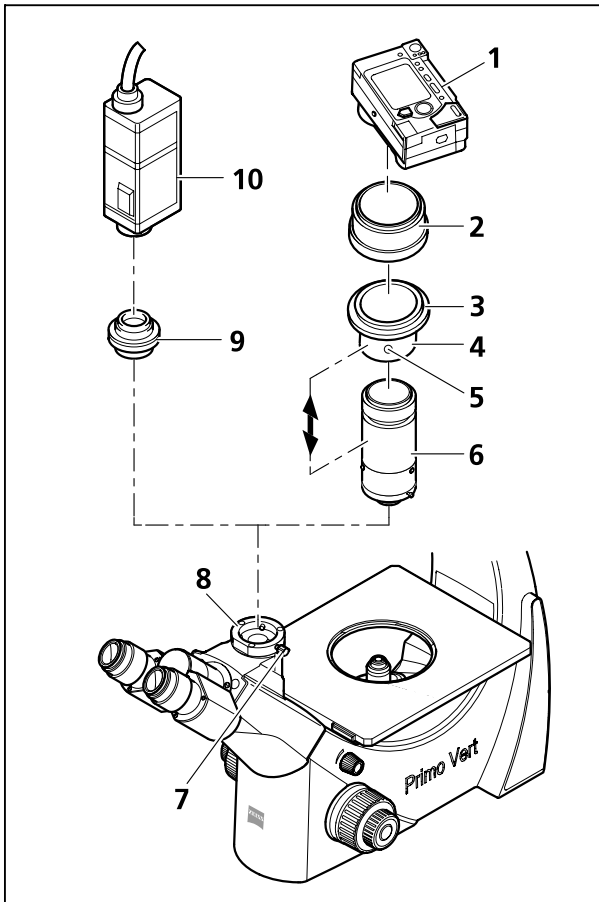

Fig. 18 Attaching the camera
- Loosen the clamping screw (Fig. 18/7) and remove the dust cap from the camera port (Fig. 18/8) of the trinocular tube.
- Sliding mount (Fig. 18/4), thread adapter ring M37/52 (Fig. 18/3) and lens mount (Fig. 18/6) are supplied pre-assembled as **Digital Camera Adapter P95 M37/52x0.75**. The opposite drawing shows this unit dismantled. Furthermore, you may unscrew the thread adapter ring M37/52 (Fig. 18/3) from the sliding mount (Fig. 18/4) (not shown) so that you can also attach cameras with M37 thread.
- Mount the adapter ring (Fig. 18/2) (supplied with the camera) to the camera (Fig. 18/1) (see the operating instructions of the camera).
- Screw the unit consisting of sliding mount (Fig. 18/4), thread adapter ring M37/52 (Fig. 18/3) and lens mount (Fig. 18/6) into the adapter ring (Fig. 18/2).
- Insert the camera with adapter into the phototube as far as it will go. Align it and fasten it with the clamping screw (Fig. 18/7).
- Depending on the microscope equipment or the camera used, it may be necessary to optimize the distance between camera lens and lens mount (Fig. 18/6) (see double-headed arrow). This will be necessary in particular if it is impossible to obtain an unvignetted image in any of the zoom positions of the camera lens. To this end, adjust the camera as follows:
- Loosen the set screw (Fig. 18/5).
- Zoom the camera lens through from wide angle (W) to tele position (T).
- Retighten the set screw (Fig. 18/5).
Cameras with C-mount thread are to be connected to the phototube of the microscope by means of the camera adapter P95-C 2/3" 0.65x or P95-C 1/2" 0.5x (Fig. 18/9).
- Put the camera (Fig. 18/10) together with the corresponding camera adapter (Fig. 18/9) into the phototube as far as it will go, align it and fasten it with the clamping screw (Fig. 18/7).